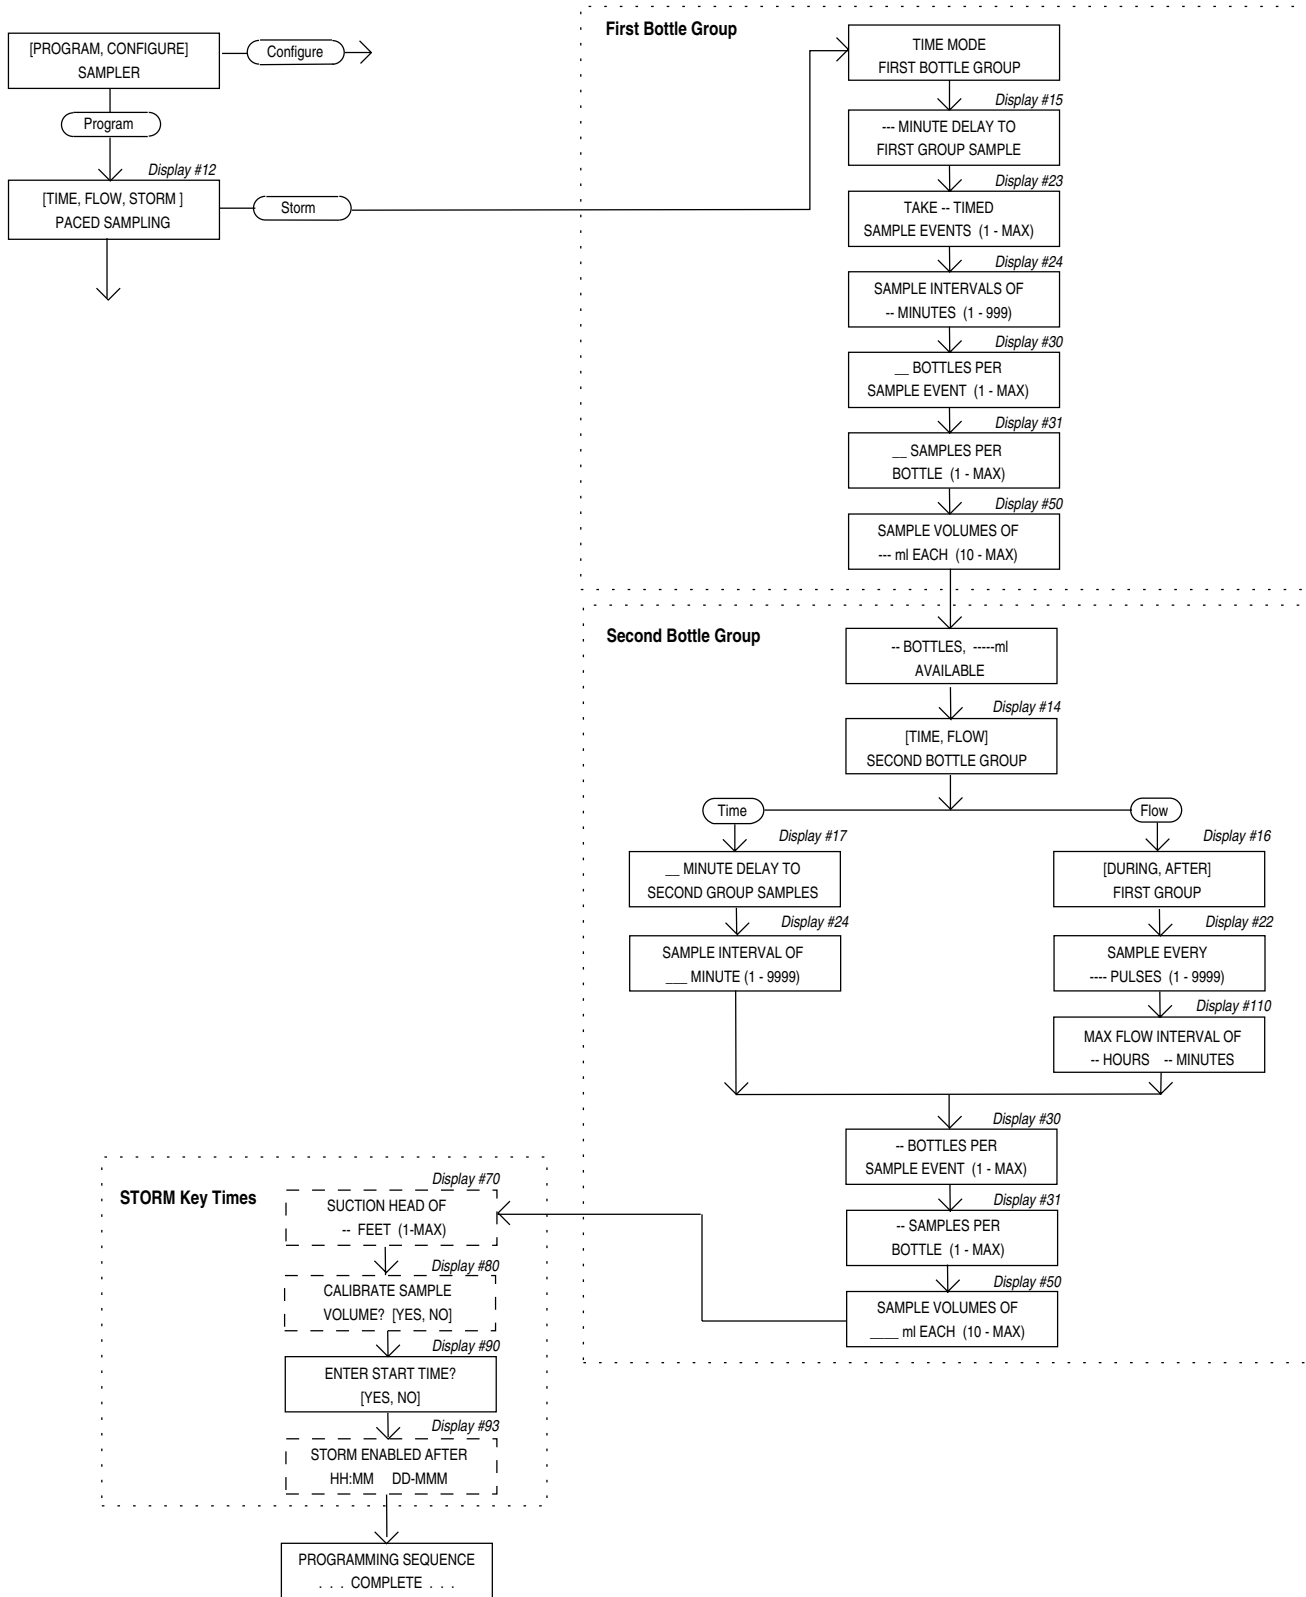

Figure 3-12 Extended Programming Mode: STORM Programming
**Stops and Resumes** – The Stops and Resumes settings are available only when you have enabled the Sampling Stop/Resume configure option. You must first enter the number of stops and resumes, from 0 to 24. (Enter 0 if you want to omit the stop and resume settings without returning to the configure sequence and disabling the Stops and Resumes option.) Then enter the stop and resume clock times. The first entry will be a stop time. Refer to the Key Times section of Figure 3-12, Display #s 100, 101, and 102.